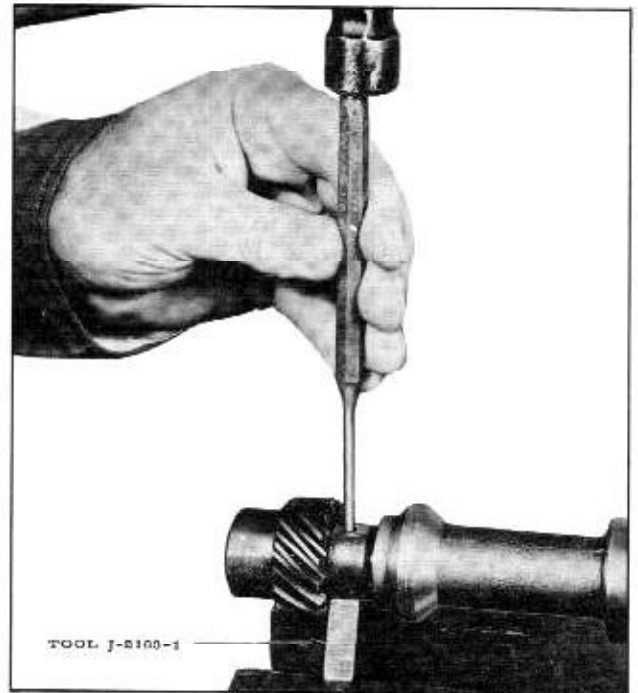

Fig. 13-65 Removing Drive Gear Pin
2. File the staking from the drive gear pin and drive out the pin. (Fig. 13-65)